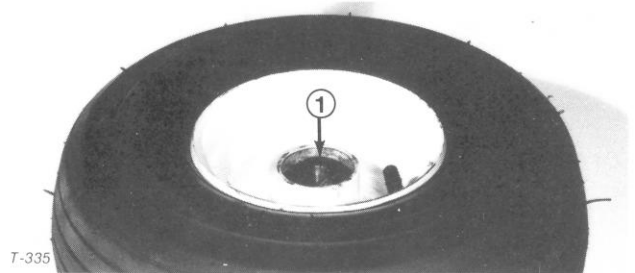

Figure 32
3. Remove bearings from wheel hub (Fig. 32). Clean the bearings in solvent and assure they are in good operating condition. Also, clean the inside of the wheel hub.